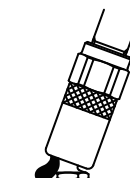

Fig.5
- 4) Remove the hydro chuck of the grease gun. Since pressure is applied to the hydro chuck, the head of the nipple may be broken if it is suddenly pulled. Incline the hydro chuck to bleed the internal fluid pressure and loosen the claw bite, and the chuck can be easily removed. (Fig. 5)